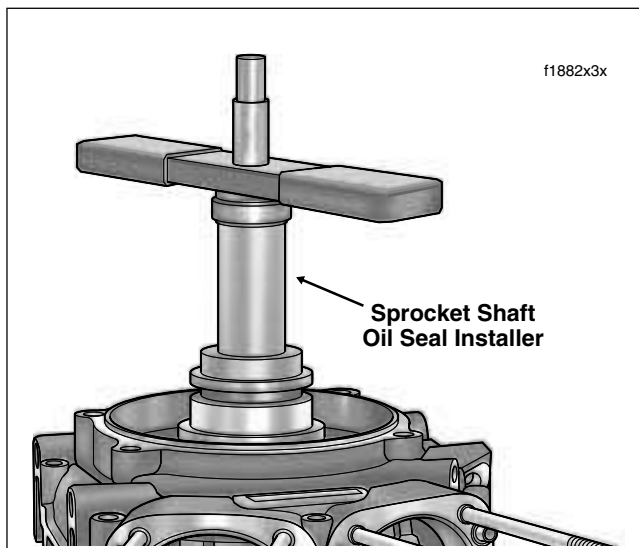

Figure 3-48. Install Oil Seal In Bore
- g. Rotate handle in a clockwise direction until oil seal installer makes firm contact with crankcase stator mount. See Figure 3-48.